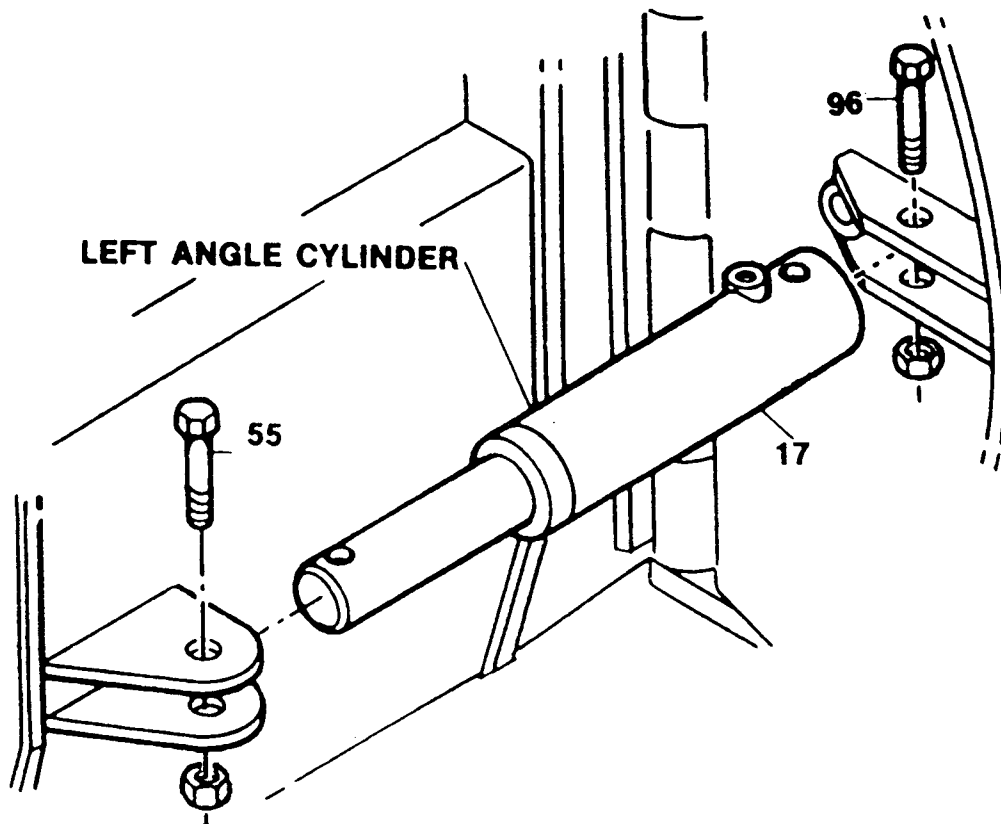

Figure 5
7. Next place each of the two ANGLING CYLINDERS (Ref. No. 17, Fig. 5) in their respective positions as shown and fasten securely with a 5/8" X 5" hex head bolt and self locking nut (Ref. No. 96, Fig. 5) and a 5/8" X 4" hex head bolt and self locking nut (Ref. No. 55, Fig. 5).